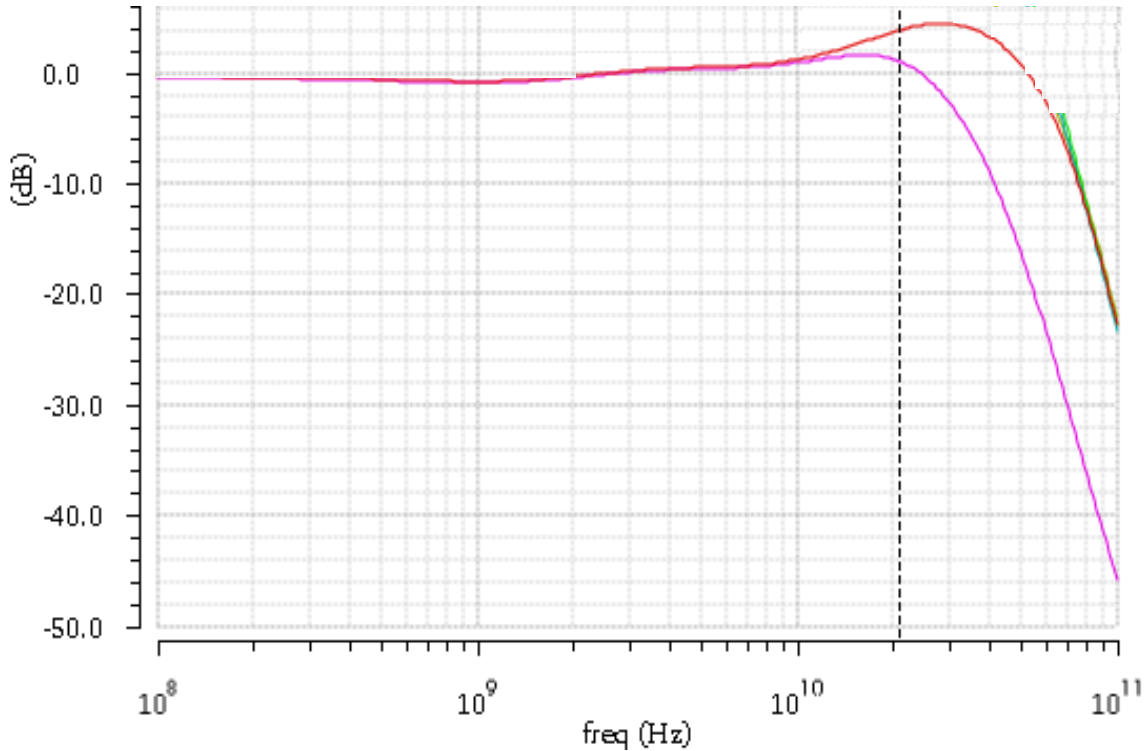

Fig. 4. DC Gain and BW Control Characteristics
Additionally, the path's bandwidth (BW) can be also adjusted using EF controls as shown by the red and magenta curves in Fig. 4 that are plotted for the Max Pole, and Min Zero setting.